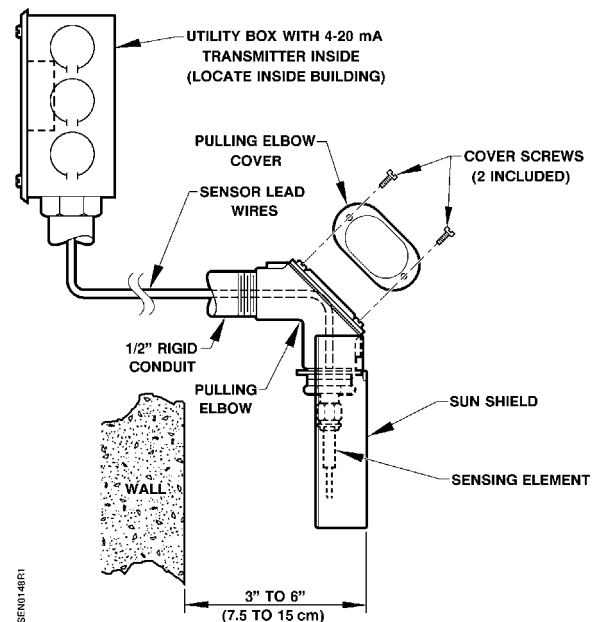

Figure 1. Outside Air Sensor, Option A Installation.
2. Feed the sensor leads through the rigid conduit to the utility box located on the inside of the building. Thread the pulling elbow/sensor assembly onto the conduit as shown in Figure 1.